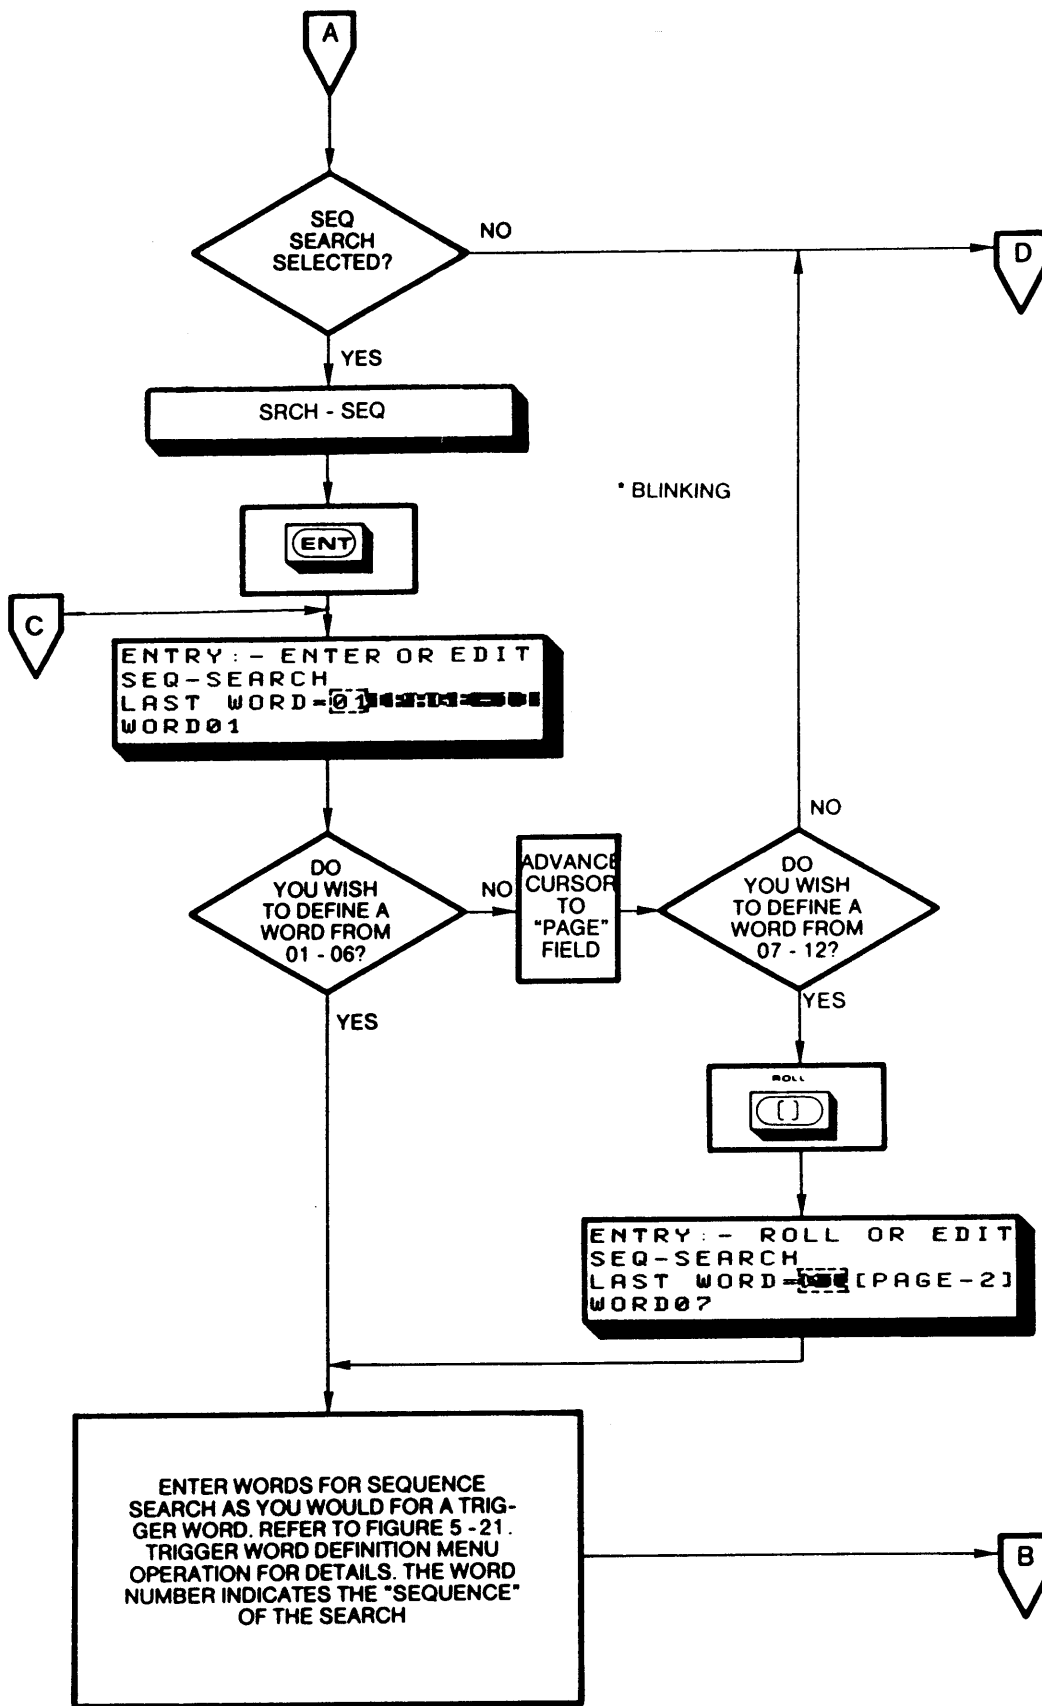

FIGURE 5-34B. TIMING DIAGRAM SEARCH
**5.5.3.6 Sequence.** The Sequence search function is an extended word search. When this function is selected, a maximum of 12 words (each up to 48 bits wide) may be searched for in a programmed sequence. The sequence search is presented on two "pages." Page one provides programming for words 1 through 6, and page two provides programming for words 7 through 12. The number of the word entered is its number in the sequence. The analyzer will look for each occurrence of that particular sequence. The "Last Word" is used to tell the analyzer where to stop in the sequence. Thus, a sequence of 12 words may be entered, but the user may program varying length of the sequence by using the "Last Word" option. Figure 5-34B and 5-34C describes the procedures used to program the Sequence Search.